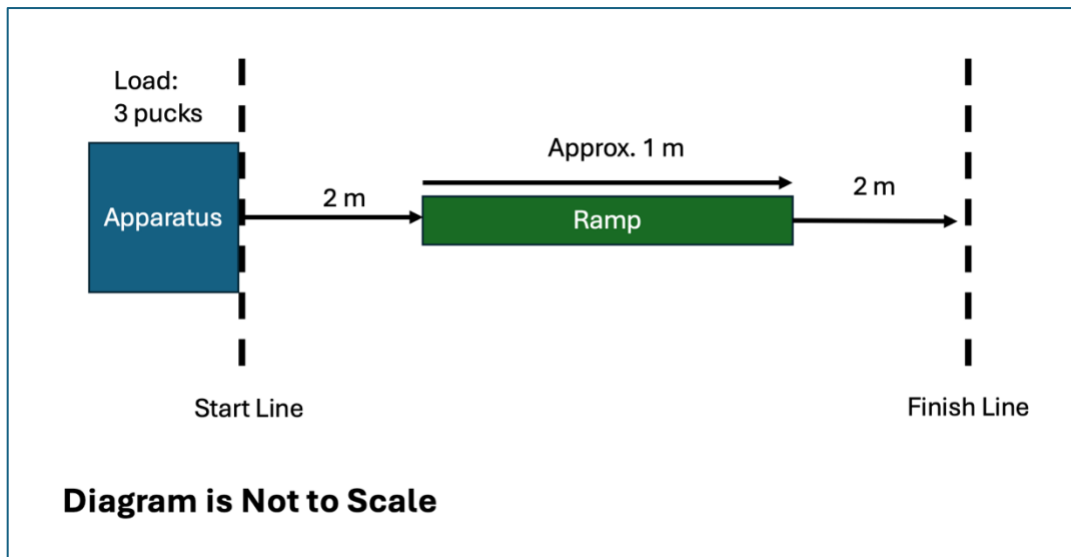

Figure 2: Diagram of Round 1: Travel Over a Mountain
Each team will have three (3) attempts to transport a cargo load of three (3) hockey pucks over the ramp and across the finish line (see **Figure 2**). Each team will initially be given 5 minutes to set up their device for the round and 2 minutes between each run, or they forfeit the run. Organizers will place two unsecured 2 x 4's, from the start line to the ramp, as guards to help the apparatus stay on course.